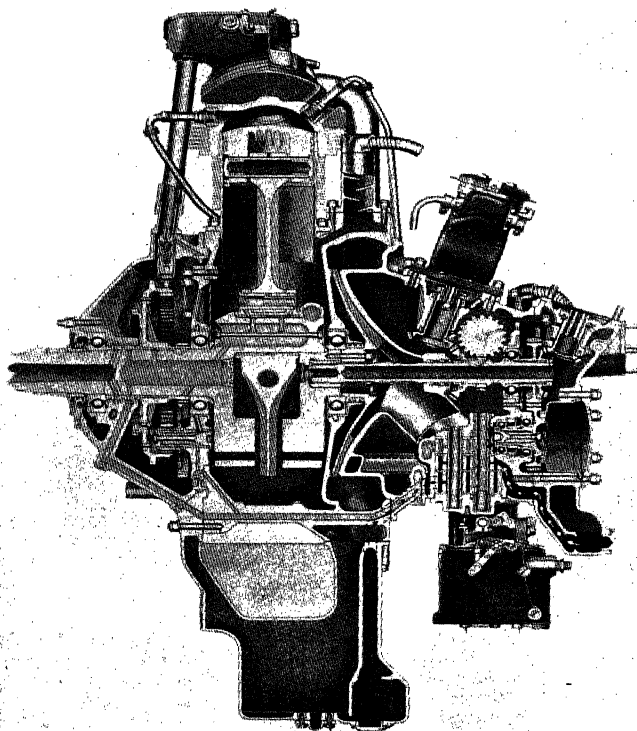

FIG. 17.—The oiling system of the Lycoming radial engine.
**Lubrication System.**—Figure 17 shows the lubrication system is of the full-pressure type except for the cylinder walls and piston pins which are lubricated by excess oil thrown from the crankpin. The engine oil pump consists of one pressure pump and two scavenging pumps built into one complete unit and mounted in the lower left side of the accessory drive housing.